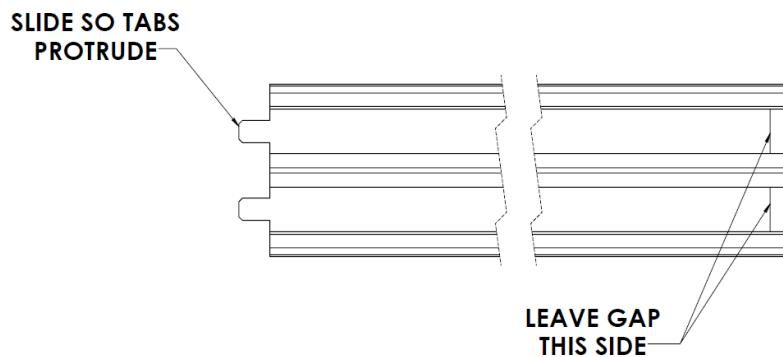

Figure 32: ***Slide Metal Strips 1/2" Out of Plastic Insulator***
d. Slide the metal strips inside the TransStrip back, so the male terminal tabs protrude from the plastic insulator (Figure 32).